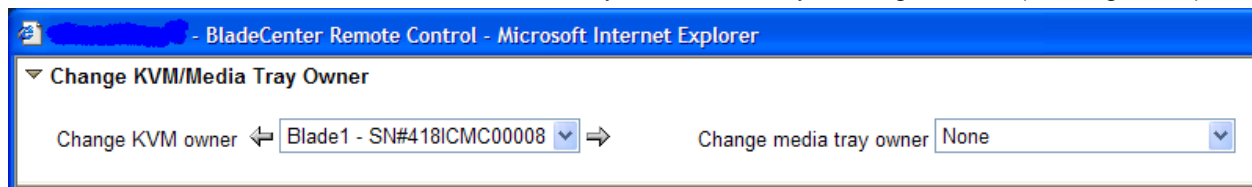

Figure 25 Change Media Tray Owner
- a. First, it is recommended that the media tray is not owned by the target blade. (See Figure 25)